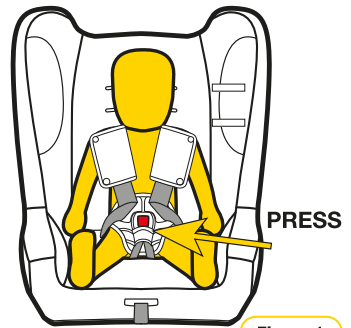

Figure 1
**Step 1:** To release your child from the restraint simply press the harness buckle and carefully remove your child from the restraint (refer Figure 1).